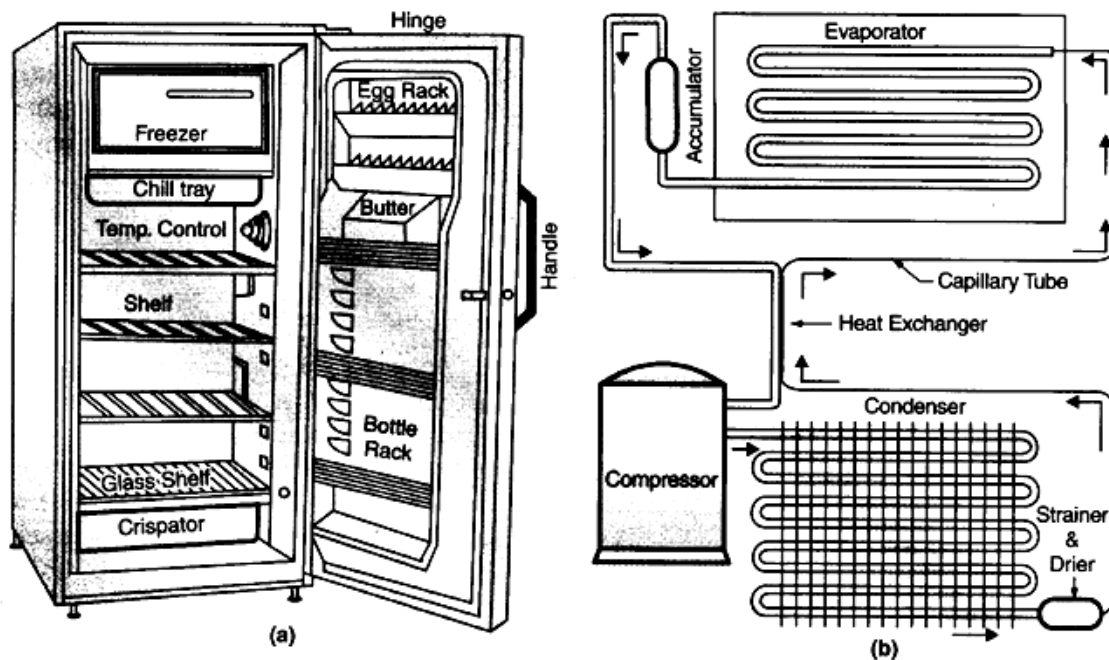

Fig. P-3.1.
Construction : Normally it consists of a small double wall cabinet equipped with air tight door. The space inbetween the walls is filled with heat insulating material like glass wool, rock wool thermocole or cork etc. To minimise the heat loss, the inner liner and outer surfaces of the cabinet are kept highly polished with shining paints. The inner liner has several shelves for storing the food stuffs. A sketch of a 165 litre refrigerator cabinet with different parts is shown in Fig. P-3.1 (a). Whereas in Fig. P-3.1 (b) the various components and their locations are indicated.
The mechanism of the refrigerator is illustrated in Fig. P-3.1 (b). The cycle of operation is explained as follows ;
5. The high pressure and low temperature liquid flows through the drier cum filter G and enters the capillary tube H. The capillary tube is attached to the suction line forming a heat exchanger as it is clear in Fig. P-3.1 (b).